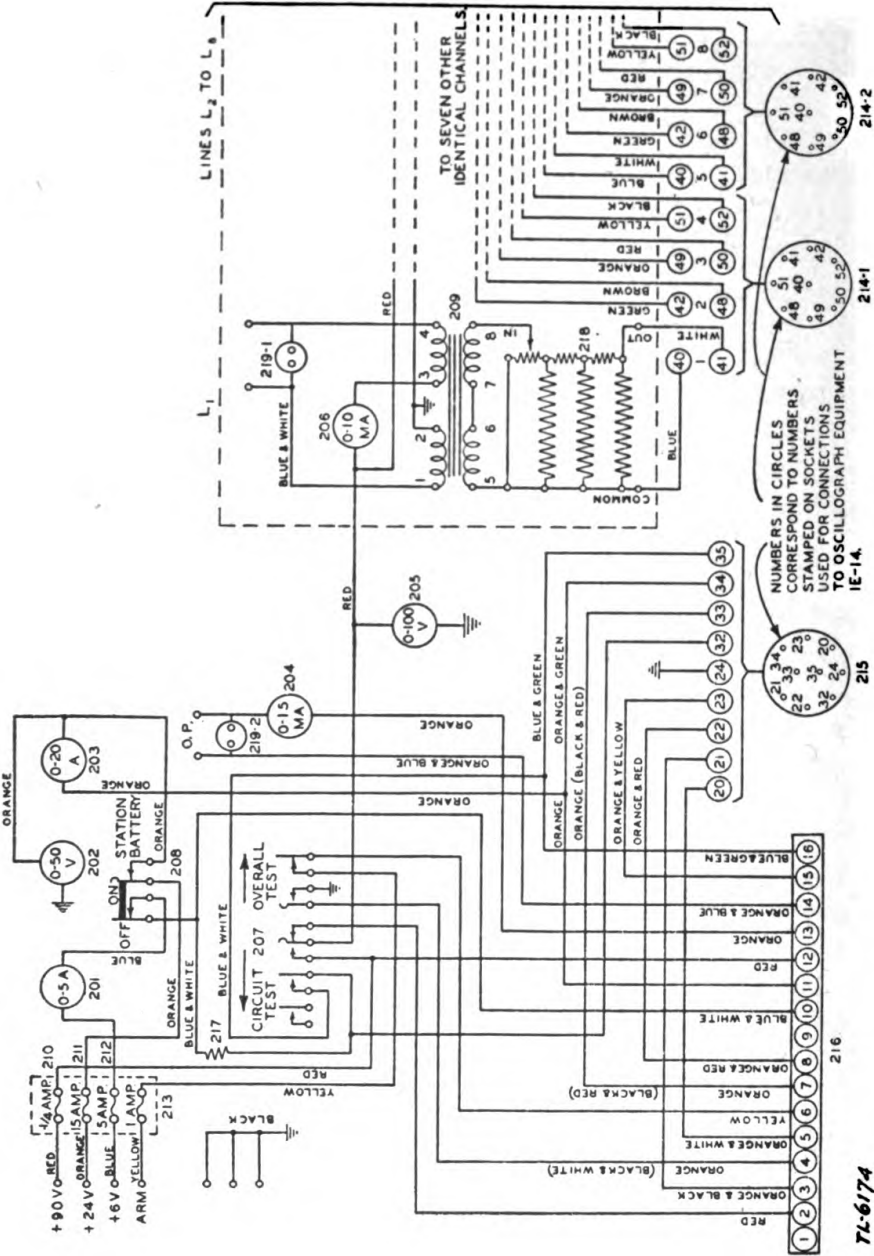

Figure 15.—Control Board BD-85-(\*), circuit diagram.
*d.* The meters are shown in figure 15, the schematic wiring diagram of Control Board BD-85-(\*). The numbers encircled in the diagram refer to the connections of the three sockets at the rear of the control board. A wiring diagram similar to that of figure 15 will be found inside of the control board cover, mounted on the back plate.